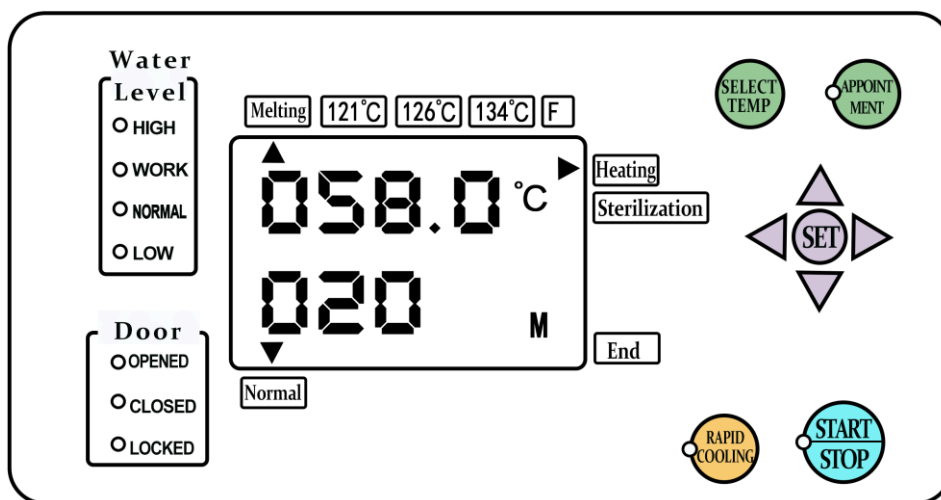

Fig. 3
7.6 Panel Display Part: (Refer to **Fig.3**)